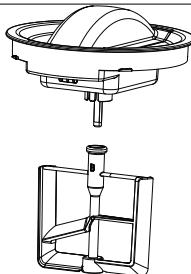

Fig. 6
- Mount the stirrer on the drive shaft of the motor block (see Fig. 6).